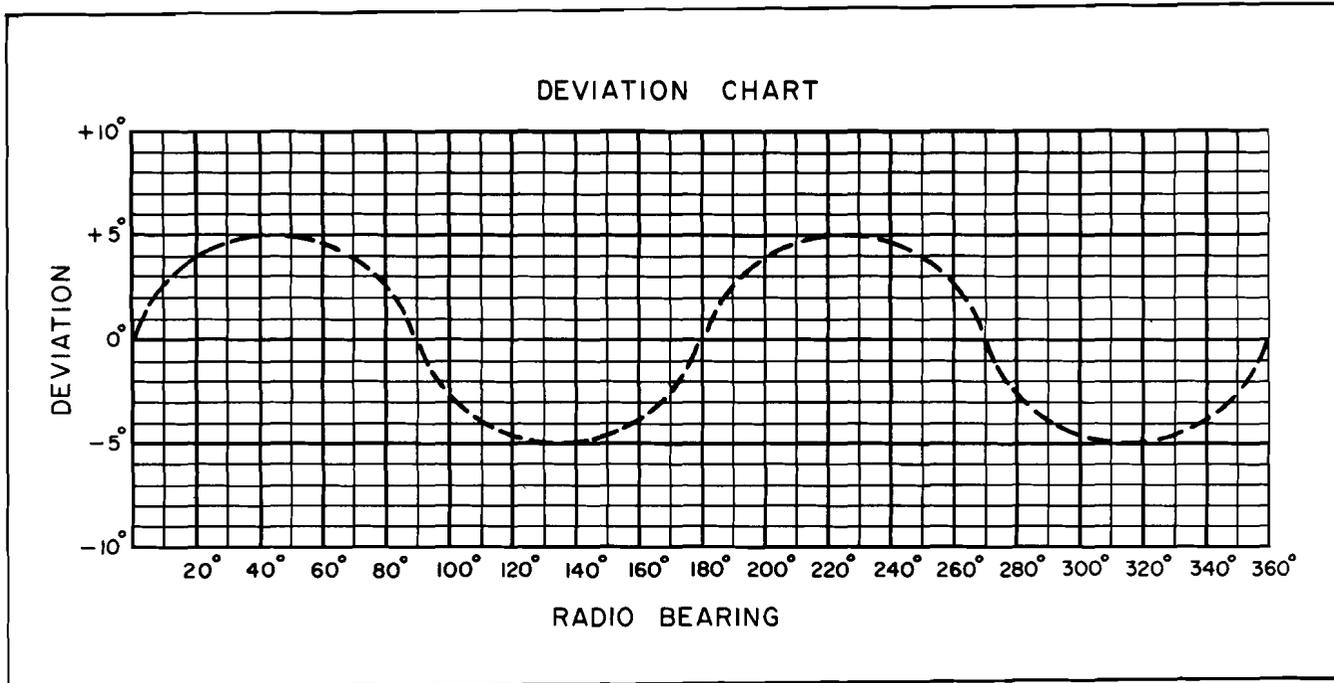

Figure 5. Example Deviation Chart
9. Plot the 36 readings taken on the deviation chart, figure 5.